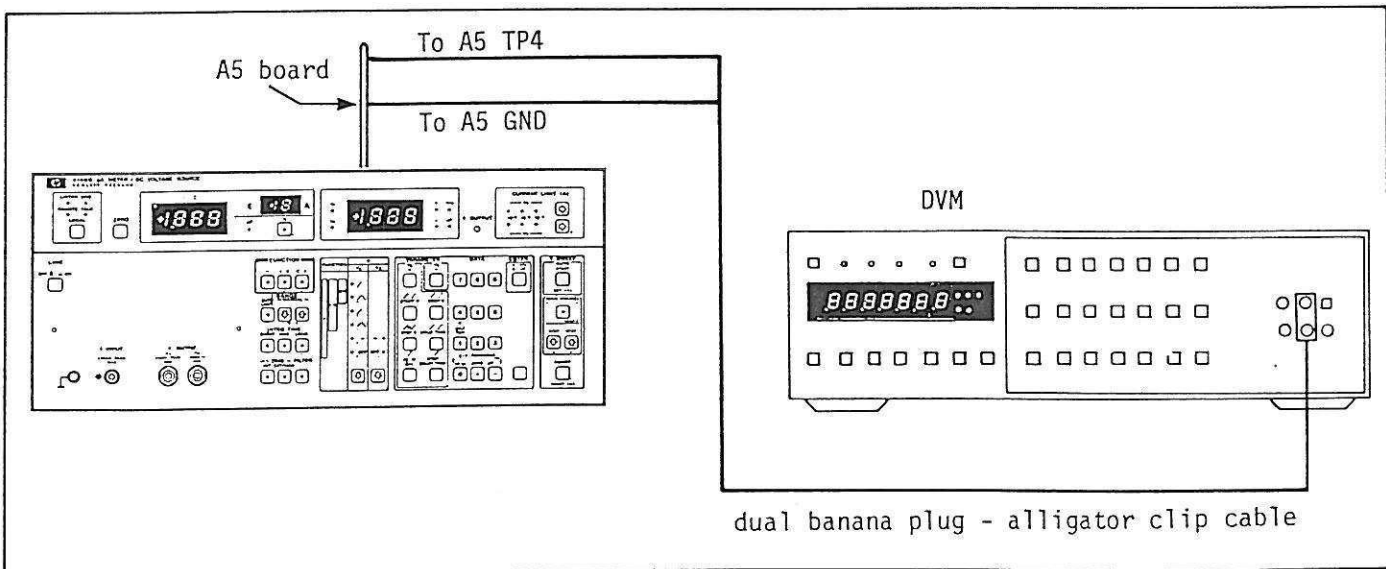

Figure 5-5. VS (Voltage Source) DC Adjustment Setup.
4. Connect the positive input of the DVM to A5TP4 (see Figure 8-42 for location) and the negative input to A5GND with dual banana plug - alligator clip cable. See Figure 5-5.